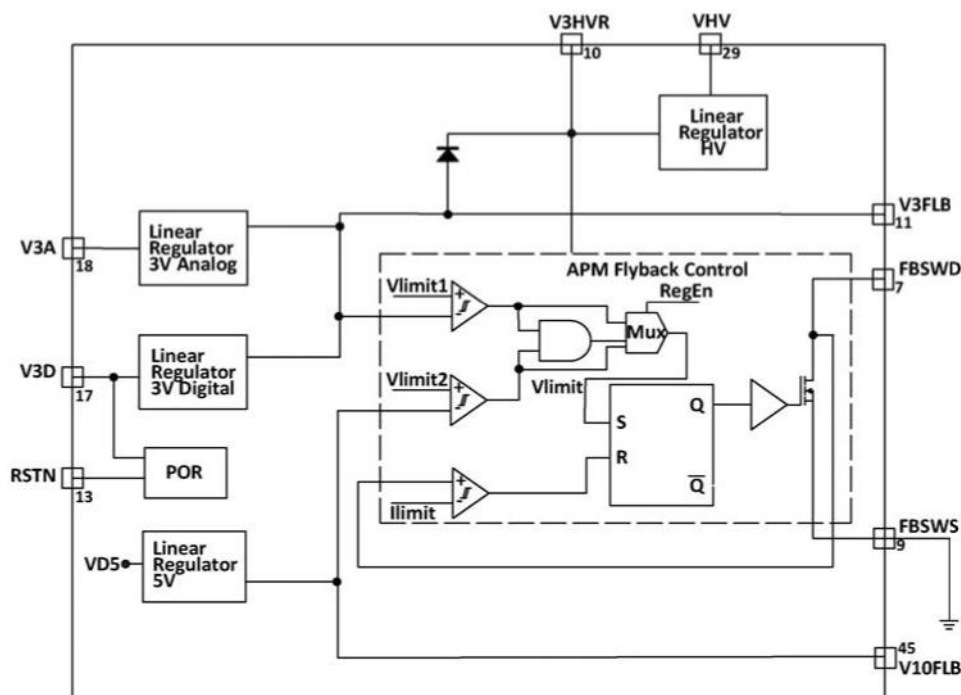

Figure 14 - Power management block.
**Error! Reference source not found.** Figure 14 shows a diagram of the SA1002 (APM) power management block. The power management block consists of a hysteretic controlled flyback switching mode power supply (SMPS) with an integrated 90 V LDMOS switch, four linear voltage regulators, two shunt regulators, and power-on-reset (POR). The flyback controller allows for design of isolated power topologies for example flyback converter. Adding more secondary windings to the flyback transformer provides isolated supplies for a second-stage of a DC/AC inverter.
As shown in Figure 14, the SA1002 (APM) power management block has four linear regulators. A high-voltage regulator is supplied directly from the VHV pin and generates the start-up voltage (typically 2.8 V), which is available on pin V3HVR. The high-voltage regulator and its associated bandgap reference consume approximately 200 $\mu$ A from the primary supply input, VHV.